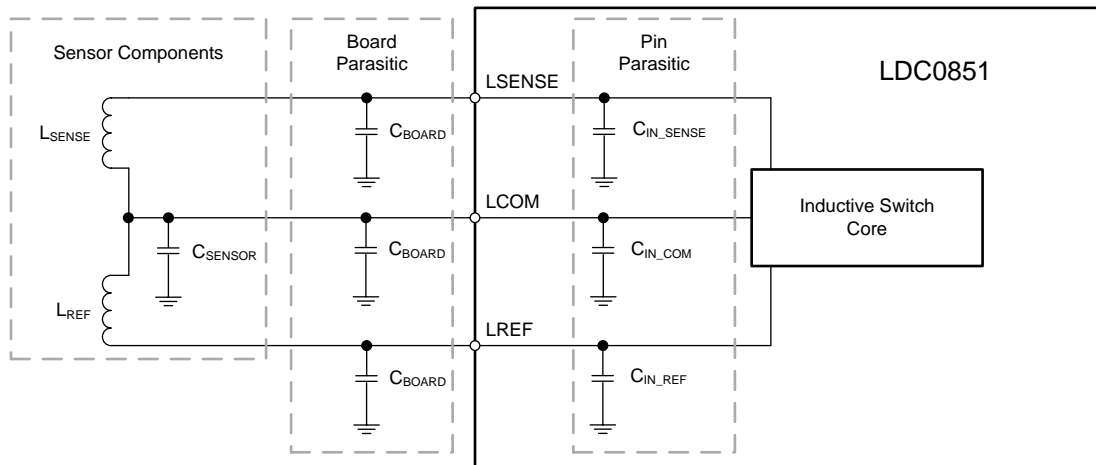

图 25. Sensor Components, Board Parasitics, and Package Parasitics Diagram
- $C_{\text{BOARD}}$  is the parasitic capacitance of the board, see 图 25
- (3)
- $C_{\text{TOTAL}}$  is sum of external sensor, board parasitic, and pin parasitic capacitances connected to LCOM, refer to 图 25 (6)